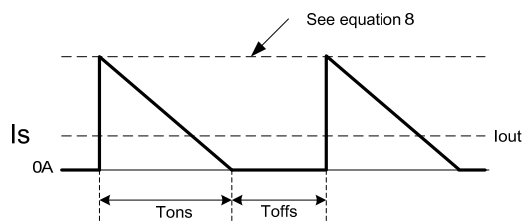

Figure 10. Secondary Current Waveform
The AP3968D is designed to work in constant current (CC) mode. Figure 10 shows the secondary current waveforms.